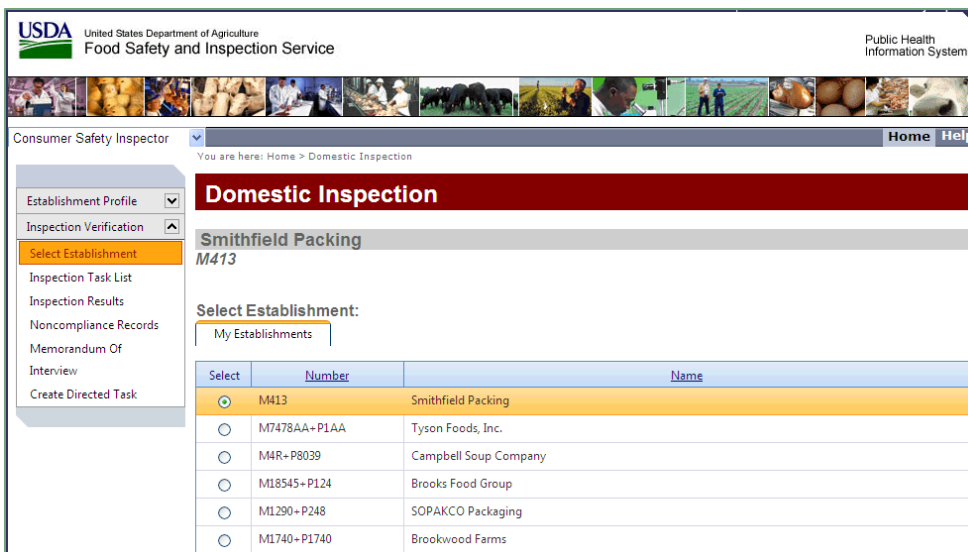

Figure 13: Inspection Verification Menu
- From the list on the Select Establishment page, you can click an establishment to view its establishment profile. The Inspection Verification menu is also available when using the PHIS – CSI component (see Figure 13: Inspection Verification Menu). Using this menu, you can work with your Inspection Task List, Inspection Results, and Noncompliance Records in much the same fashion as you do online. You can also create, edit, and print Memorandum of Interview (MOIs), except for Establishment Meeting MOIs.